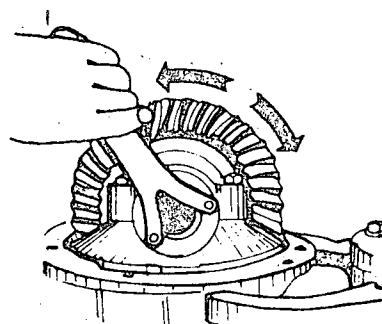

Fig. 6
- Tighten alternately the adjustment nuts so as to centre the races of the side bearings (fig. 6).